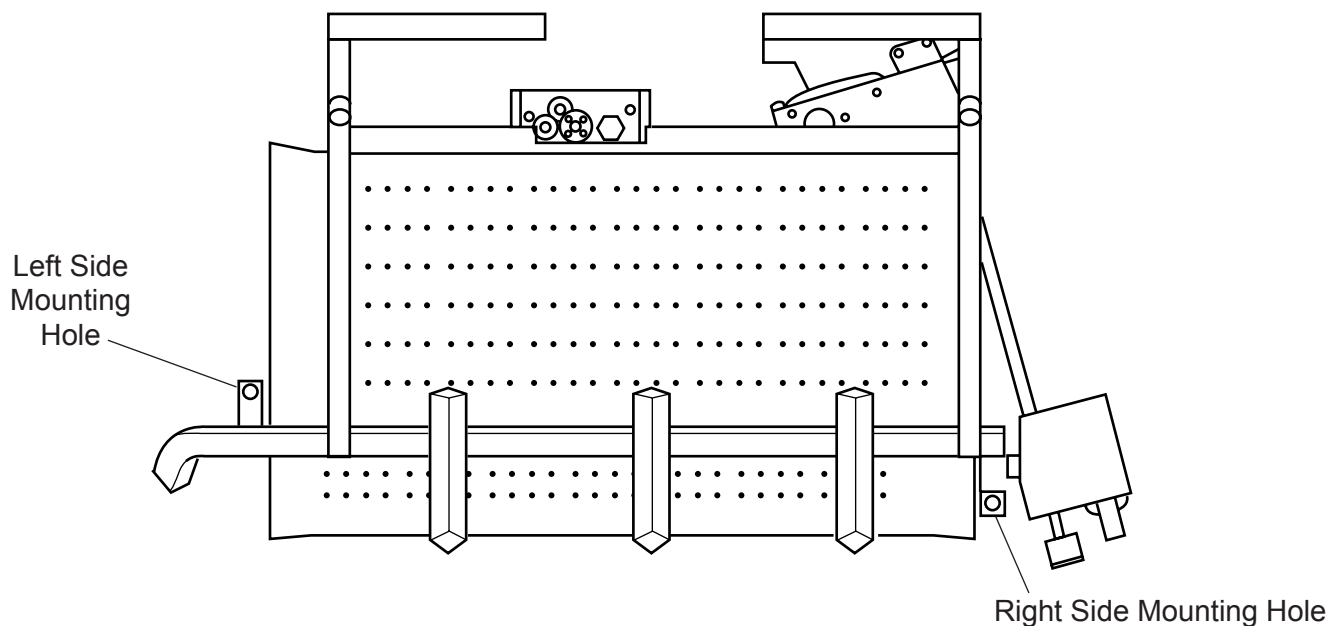

Figure 4 - Securing Heater to Floor of Fireplace/Firebox
2. Refer to Figure 4 for hole locations. After centering the grate correctly, mark the hole positions on the fireplace/firebox floor. Drill two (2) $\frac{5}{32}$ " diameter holes approximately $1\frac{1}{2}$ " deep.
3. Anchor the grate to the fireplace/firebox floor using the screws provided. Refer to Figure 4.